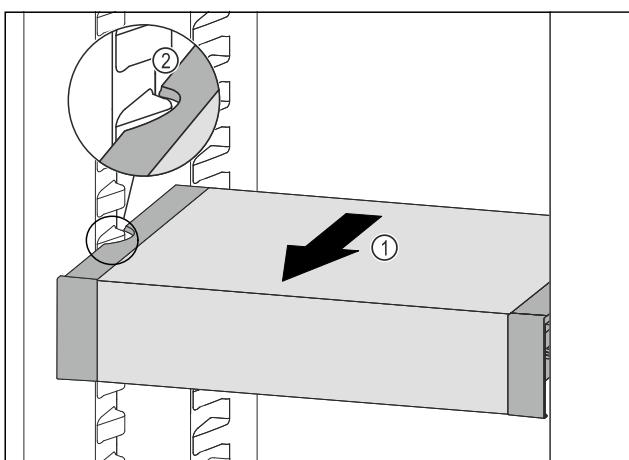

Fig. 144
► Pull VarioSafe forwards Fig. 144 (1) until the recesses in the side of the VarioSafe are at the level of the support rib in the fridge section. Fig. 144 (2)